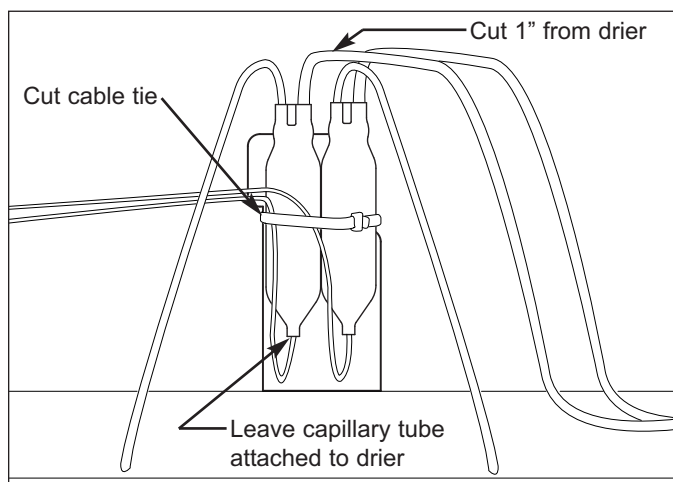

Figure 7-58. Cut Inlet at Filter-Drier
3. Since the filter-drier will be replaced at the same time, cut drier inlet tube approximately one inch from drier, leaving capillary tube attached. (See Figure 7-58)